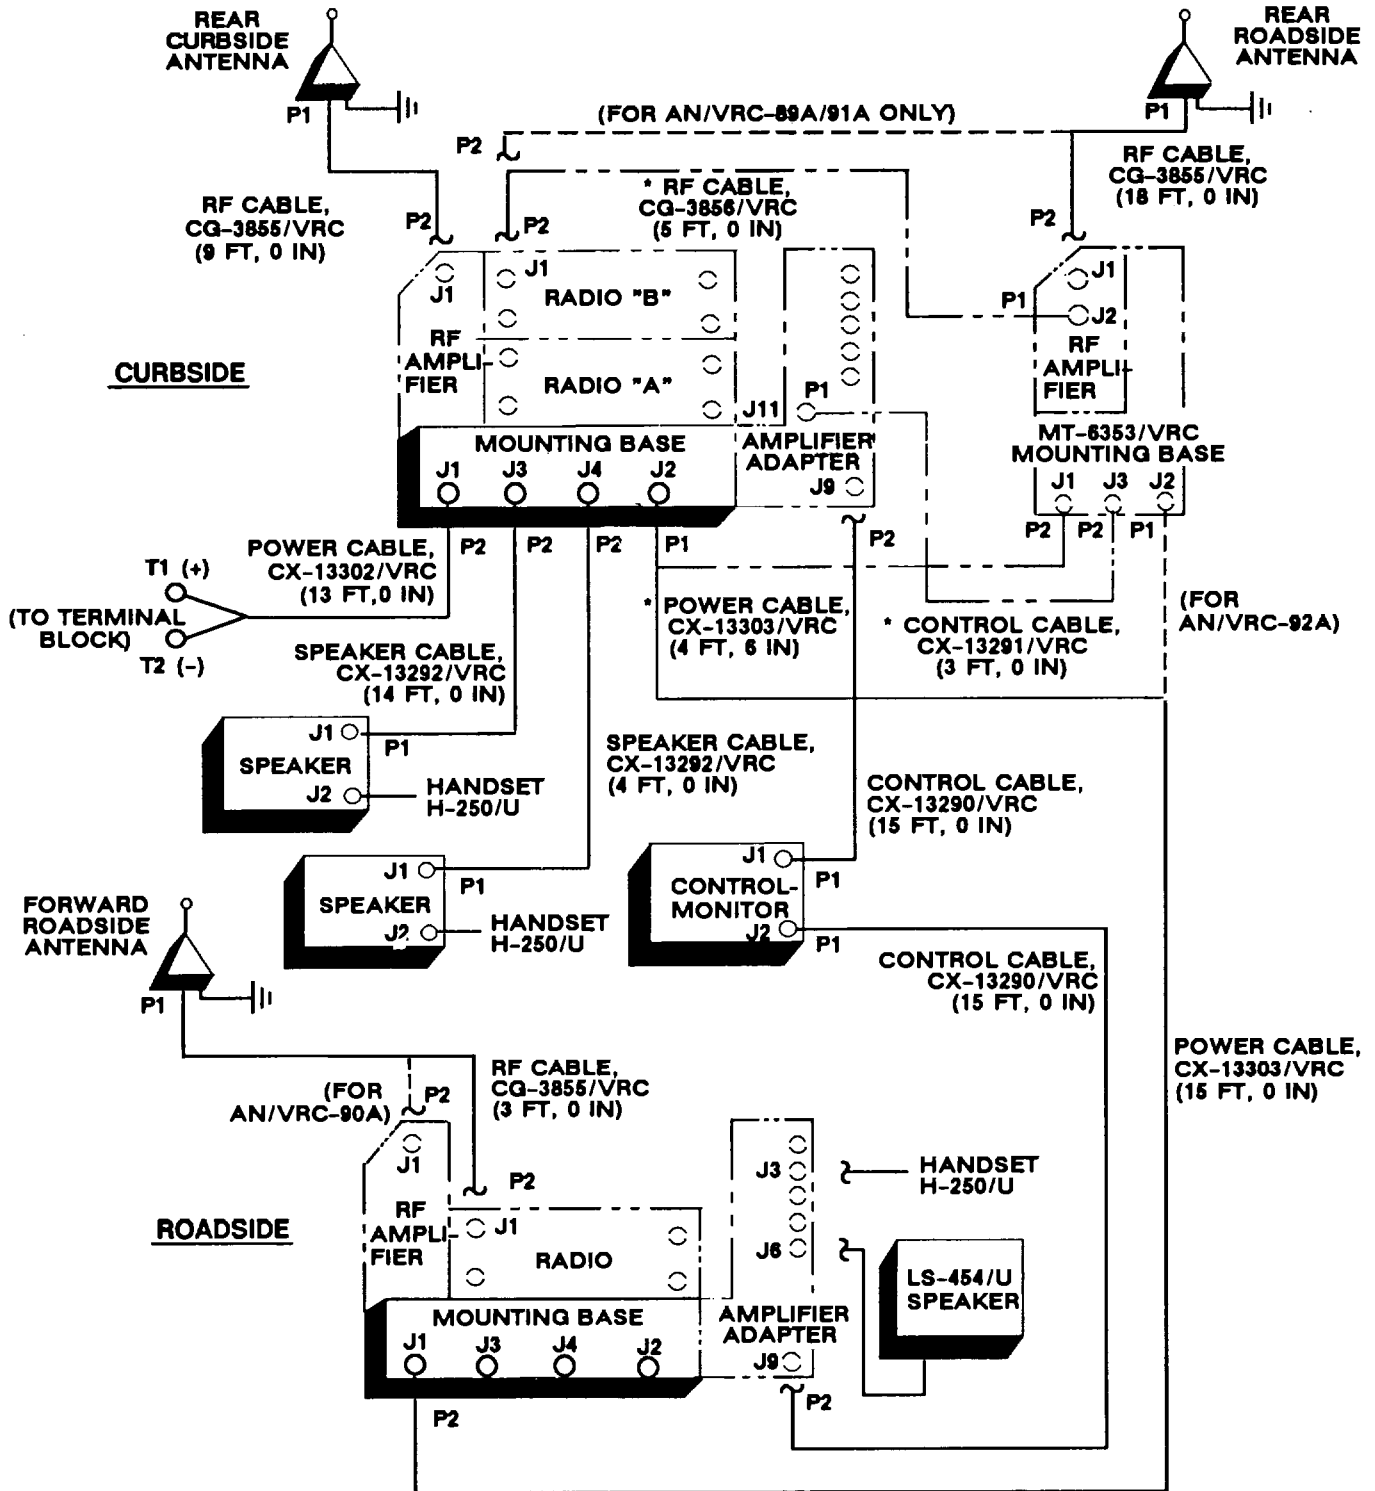

Figure 5-12. (1). Cable Diagram: For AN/VRC-87A/88A/90A and AN/VRC-89A/91A/92A
b. Cables.	Check for proper installation and connection of cables. See figure 5-12 for cable connections. Unused cables should be stowed in appropriate place inside the vehicle.
e. Radio issued with vehicle.	Install and connect cables. See TM 11-5820-890-20-1 or TM 11-5820-890-20-4 for installation and Operational (OP) Check instructions.